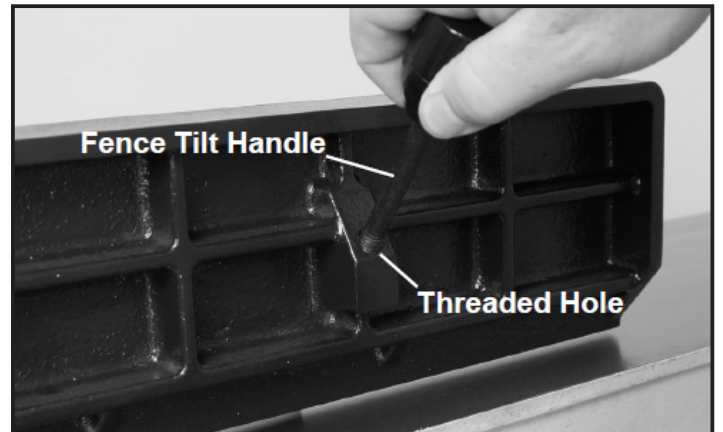

FIG.5.4.5
- Thread the Fence Tilt Handle on the rear of the Fence. FIG. 5.4.5.